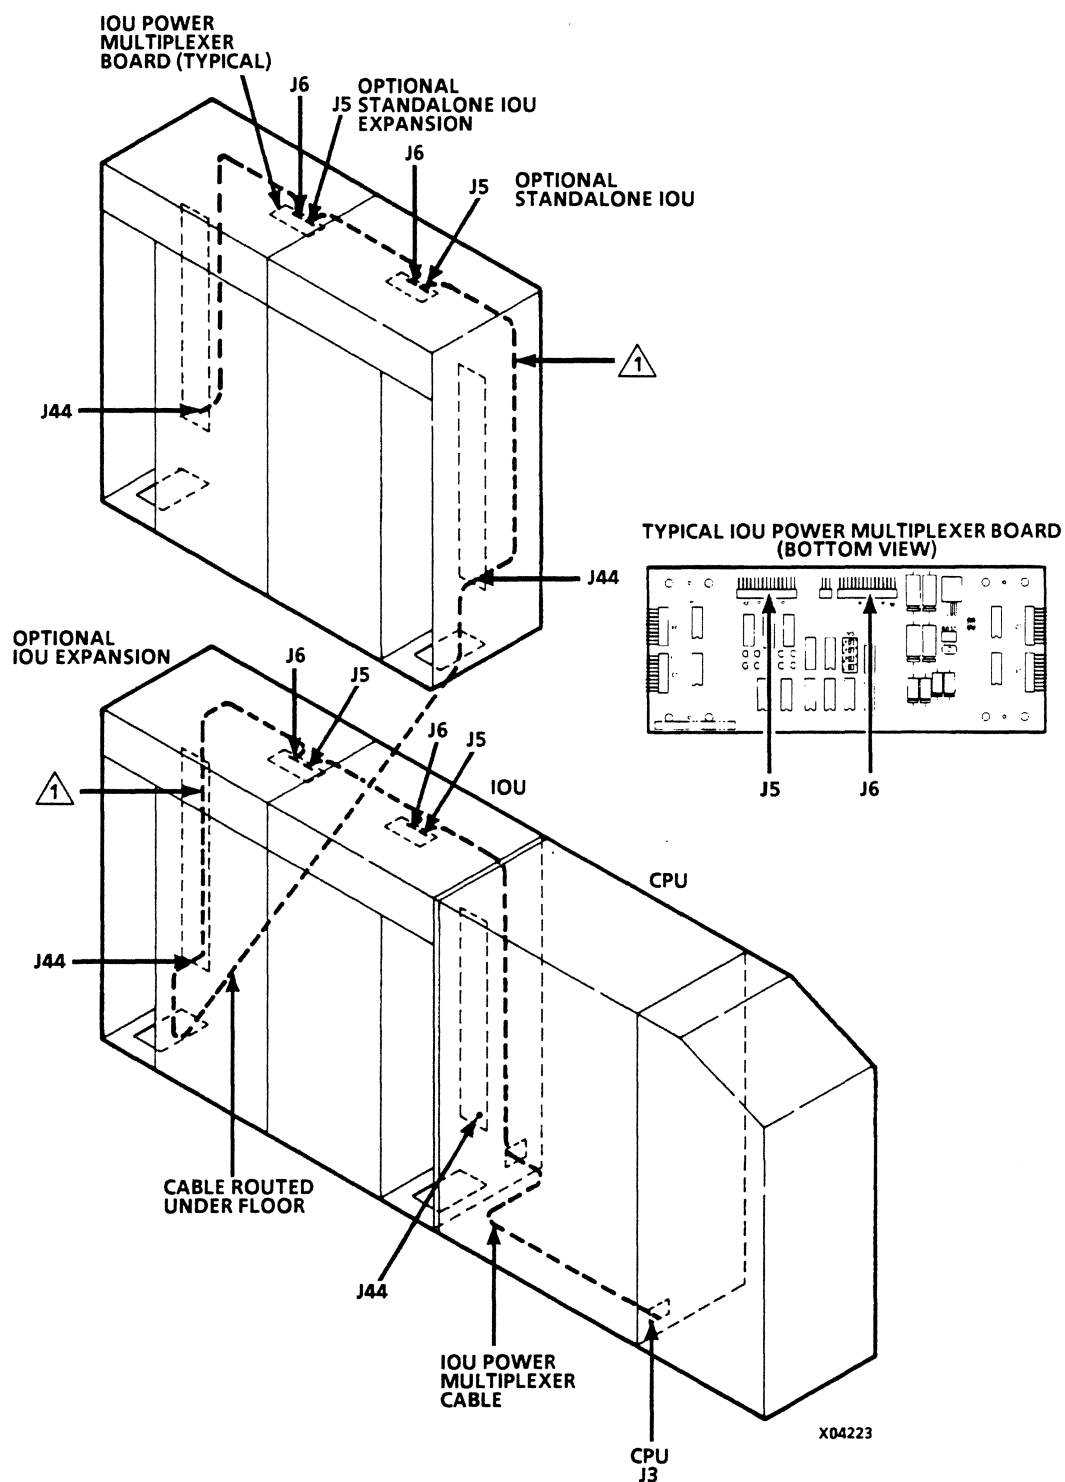

Figure 2-30. IOU Power Multiplexer Cable Connections
- ___ 1. Route and connect cables as listed in table 2-5 and shown in figure 2-30. Cables route within units, except for cable between optional IOU expansion (exp) and optional standalone IOU, which routes under raised floor.